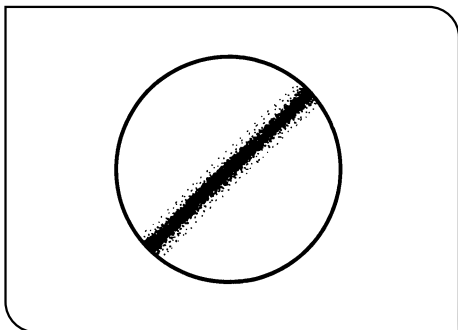

Fig. 7
7. Rotate the prism movement knob of the DIC slider in the clockwise direction all the way until the knob is stopped. A black interference stripe then a rainbow-colored interference stripe will be observed. Here, stop the knob at the position with which the black interference stripe can be seen. (Fig. 7)